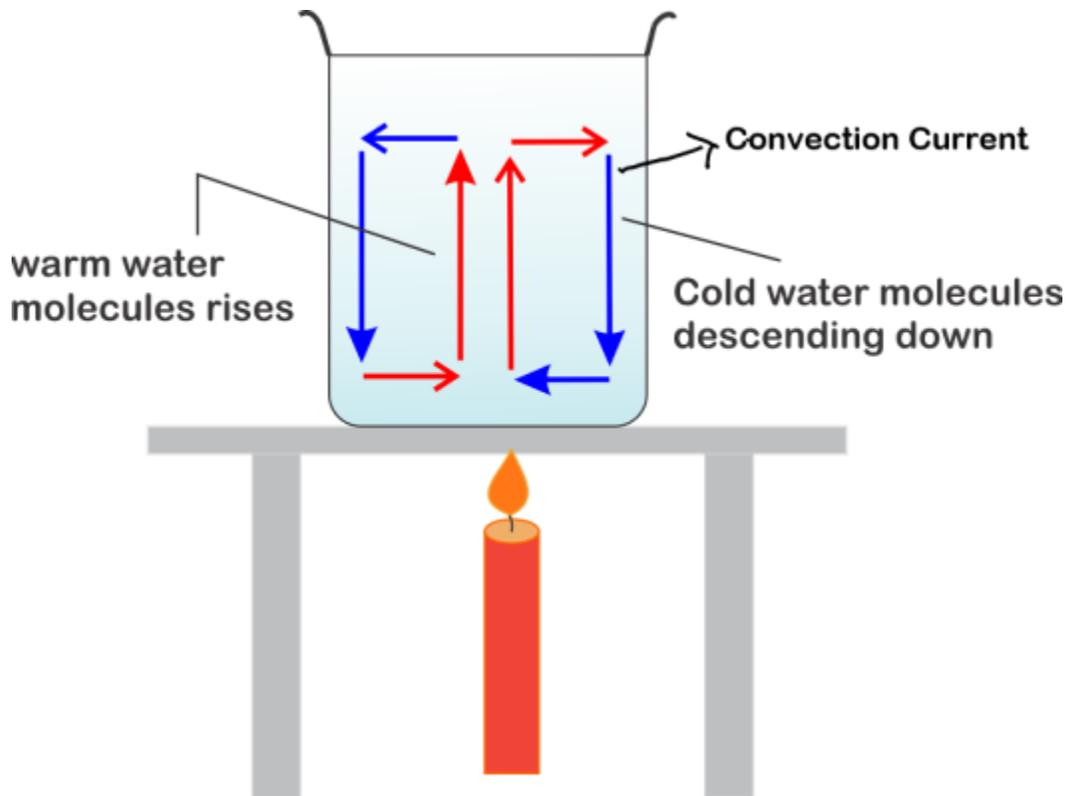

Figure 2 : Heat Transfer in water by convection
6. Again consider the figure 2 that shows heating of water in a pot. Here In this process, all three modes of heat transfer can be seen.